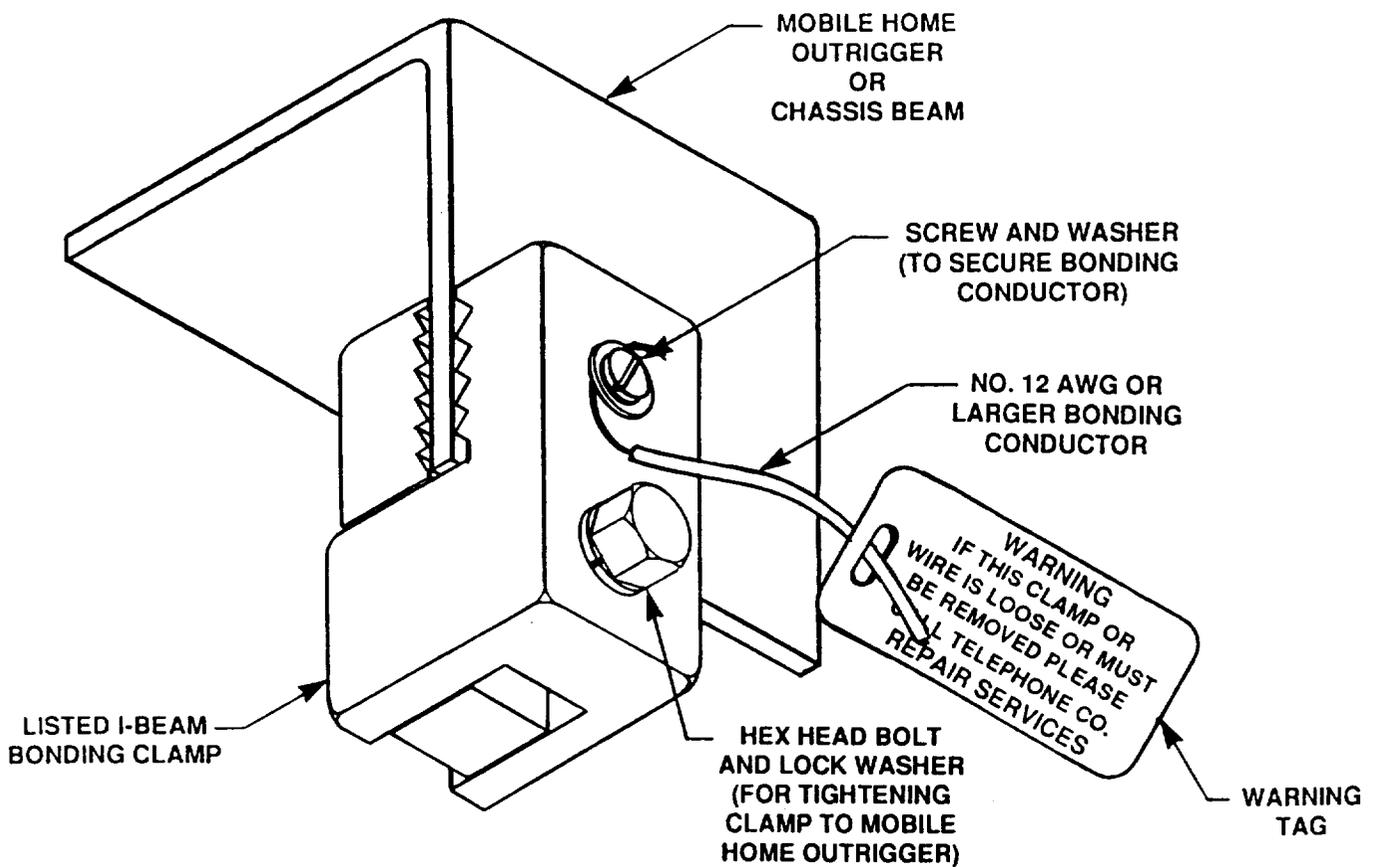

Figure 8. Bonding to Mobile Home Chassis
6.02 Use a No. 12 AWG or larger wire for bonding the mobile home chassis to the telephone protector ground terminal. For convenience, the bonding wire can be the same size as the protector ground wire. This will permit the protector ground wire to be looped around the protector ground terminal and extended to the chassis to serve as a continuous bonding wire as well. Use a chassis or I-beam bonding clamp (Figure 8) or other appropriate means to connect the bonding wire to the chassis of the mobile home. (See TA-NWT-001075^[6] for generic requirements for bonding hardware.)